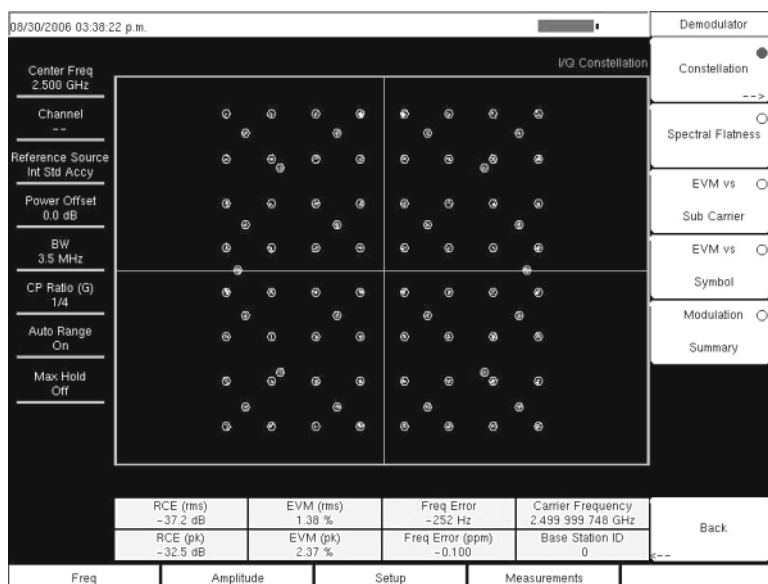
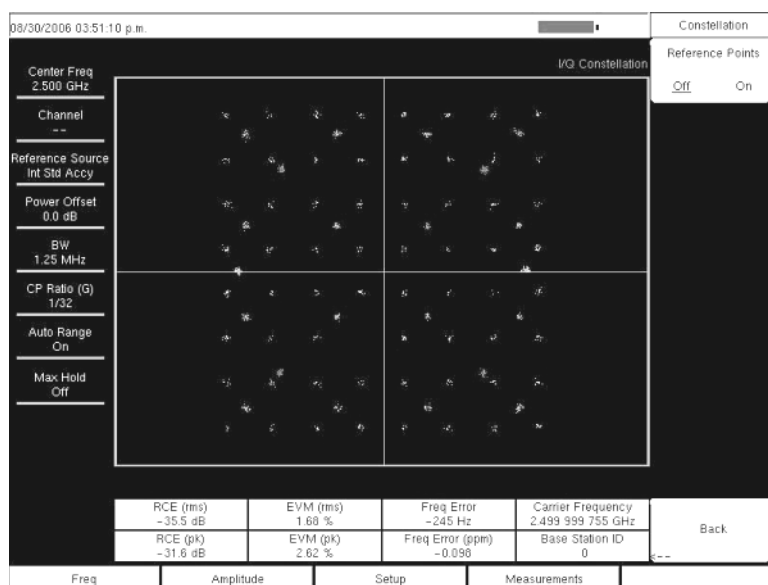

Figure 19-5. Constellation with Reference Points On
Figure 19-6. Constellation with Reference Points Off
13. Press the Reference Points soft key to switch the reference points On or Off (see Figure 19-5 and Figure 19-6 on the next page).